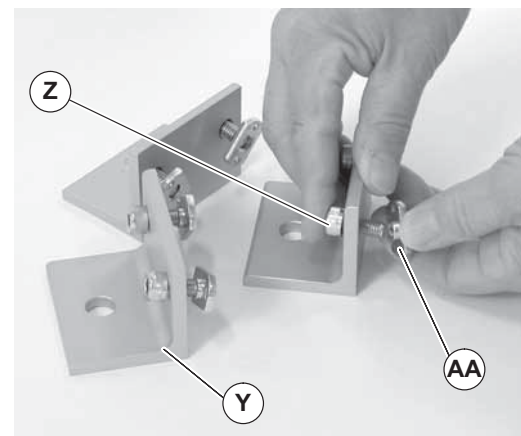

Figure 11
3. Place two socket screws (Figure 11, item Z) and nuts (AA) on the three stand foot brackets (Y). Do not tighten.
4. Align nuts (Figure 11, item AA) with t-slots (P) on one side of trileg post (V). Slide the foot bracket (Y) onto the post.